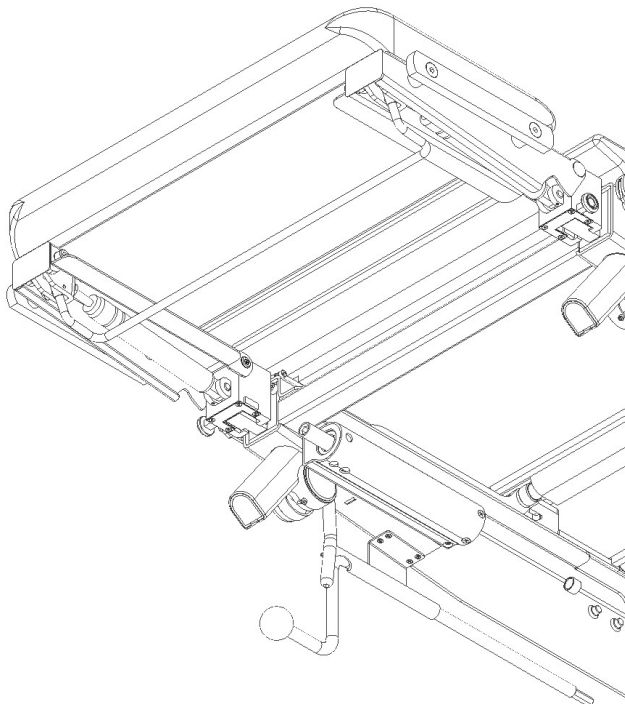

Fig. 16 Headrest
The headrest (fig. 1.1, pos. 1) is installed on the headrest mounting wedges found at the end of the backrest with two push buttons on the sides of the headrest (fig. 16, pos. 1). To install the headrest, put its wedge sockets on the backrest wedge spigots until they lock themselves. To disassemble the headrest, simultaneously push the two buttons on its sides and take it off the wedge spigot in the backrest. To change the angular position of the footrest, push the lever (fig. 16, pos. 2) triggering the gas spring mechanism. Releasing the lever locks the headrest in the set position.